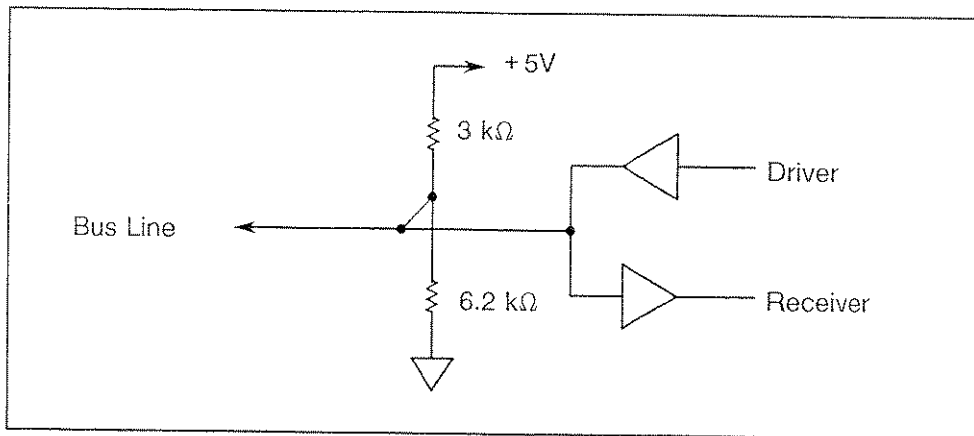

Fig. 6-2 Signal Line Terminals
- Signal line terminal : The 16 bus lines are terminated as shown in Fig. 6-2.